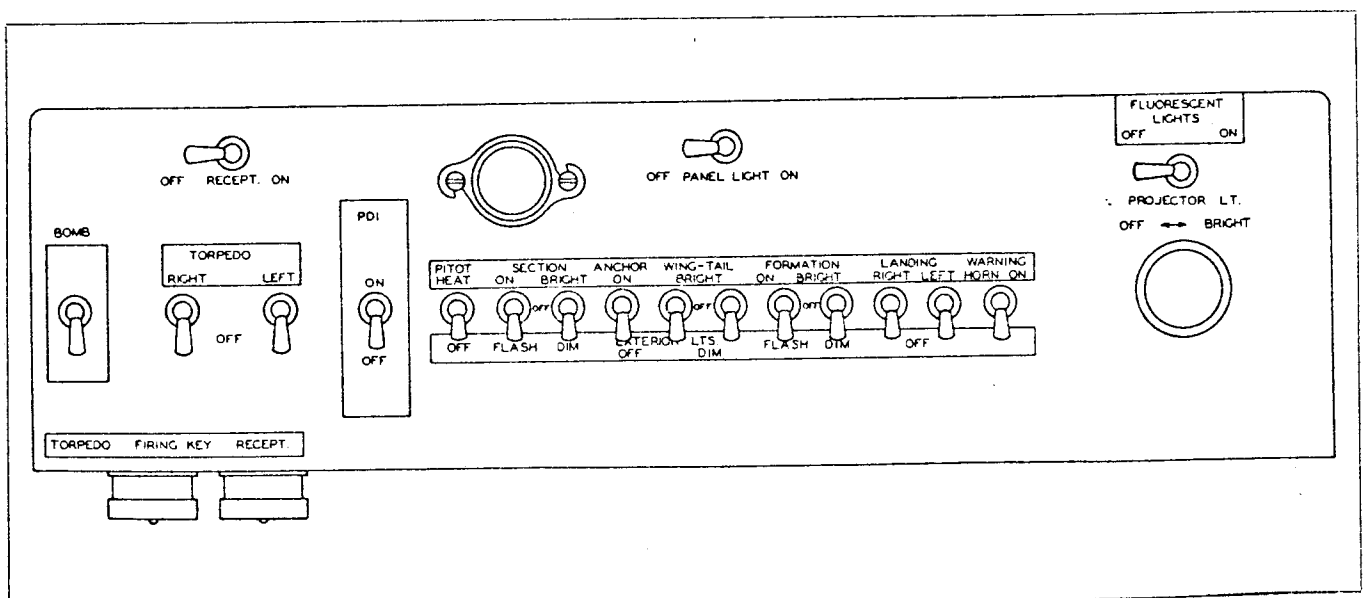

Figure 221—Pilot's Switch Panel
3. To release the torpedo, the torpedo switch must be in "ON" position. In case both torpedoes are to be released at one time, both the "RIGHT TORPEDO" and the "LEFT TORPEDO" switches must be in "ON" position. (See figure 221.)